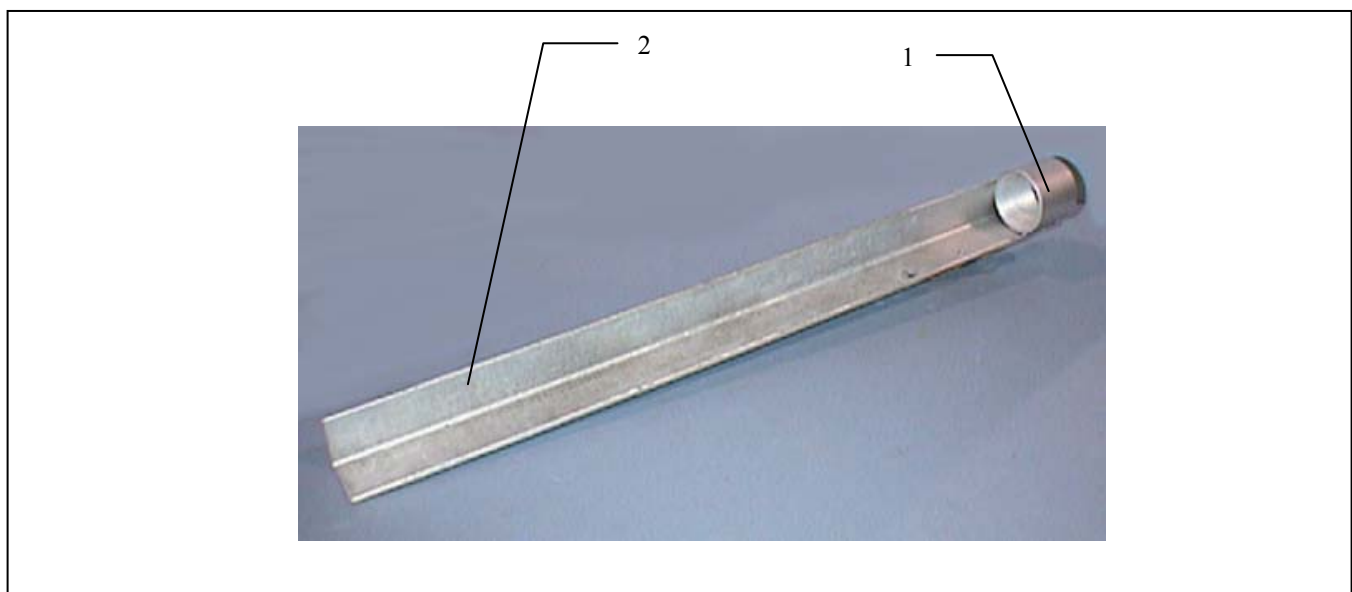

Figure 6. Stake Assembly
1. See Figure 6. Install angle-iron stakes (2) in 6-inch- (152.4-mm-) diameter holes at a depth of 30 inches (762 mm).